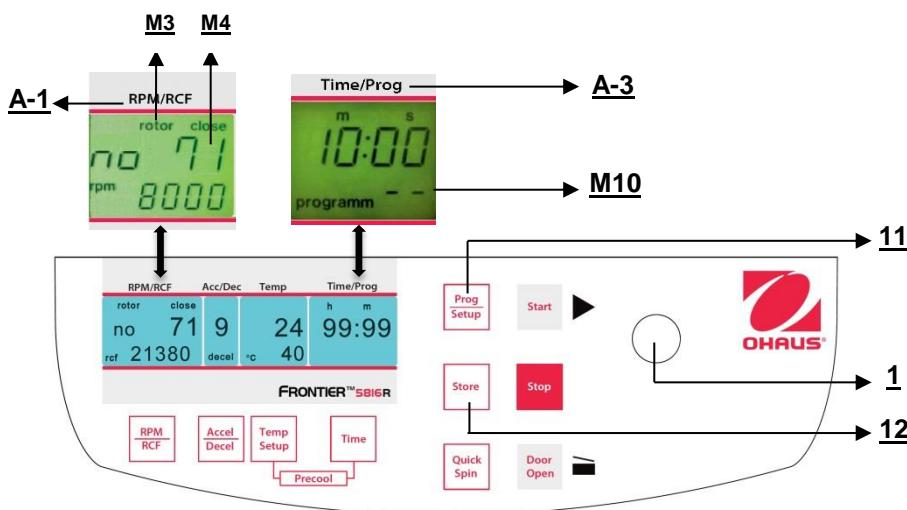

Figure. 25
To recall stored programs press the key "**Prog/Setup**" (11) (refer to figure 25) while the lid is already closed. Inside the display "**Time/Prog**" (A-3), "**programm -**"(M10) appears. The desired program number can be pre-selected with the adjusting knob (1).
To leave the program mode just press the key "**Prog/Setup**" (11) (refer to figure 25). Then inside the display "**Time/Prog**" the word "**programm**" appears.